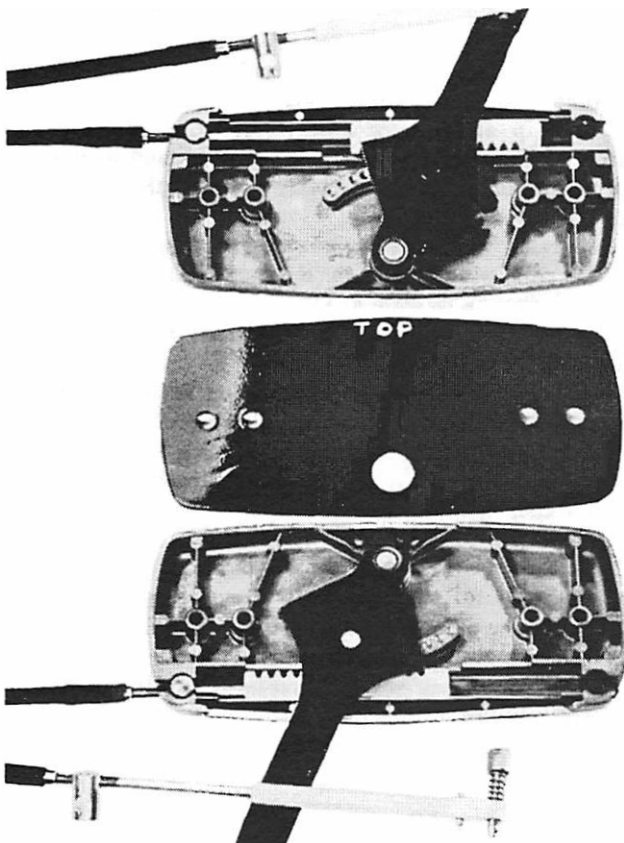

Figure 10. Assembling Remote Control (Manual)
4. Set throttle handle on nylon pivot bearing in control box "inside half" and engage teeth of handle sector and nylon gear rack so first tooth of each one engages the other while nylon gear rack is at its maximum traverse in slide and handle at forward position. (Figure 10)